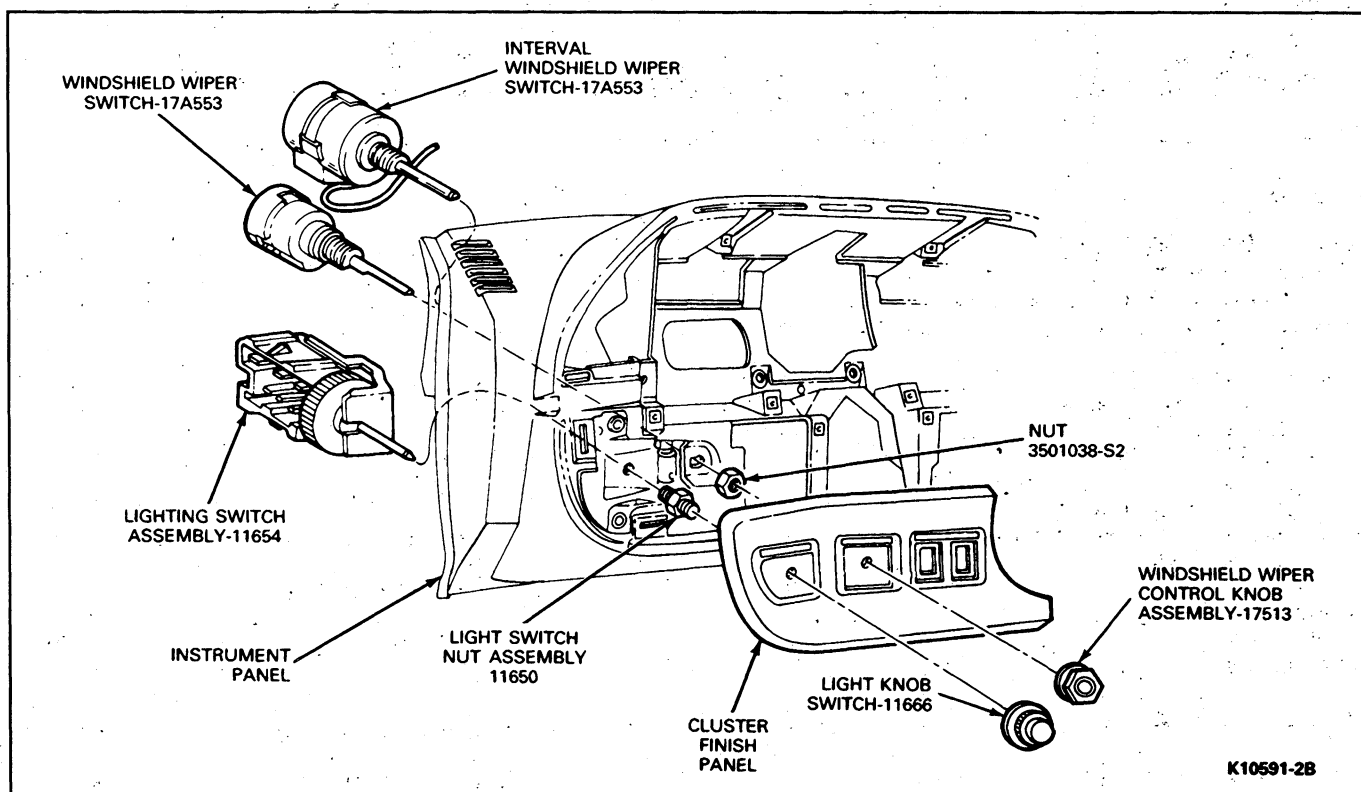

FIG. 8 Headlamp Switch Installation—F-150—F-350 and Bronco
5. Unscrew the mounting nut. Remove the switch from instrument panel, then remove the wiring connector from the switch (Fig. 8).